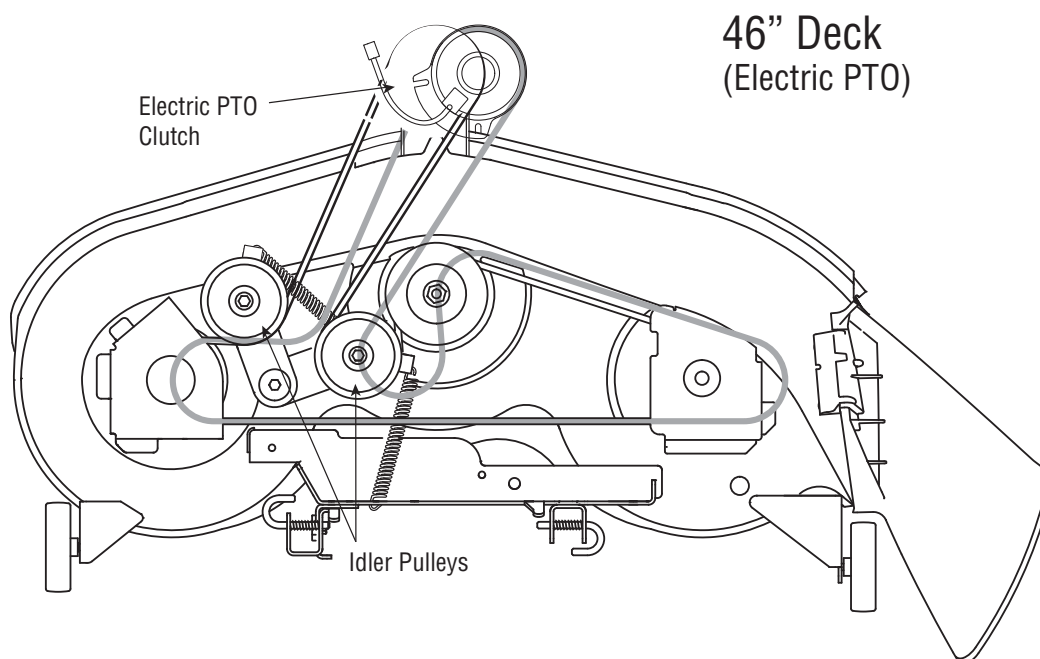

Figure 22
2. Remove the belt covers by removing the screws that fasten them to the deck. See Figure 22 .